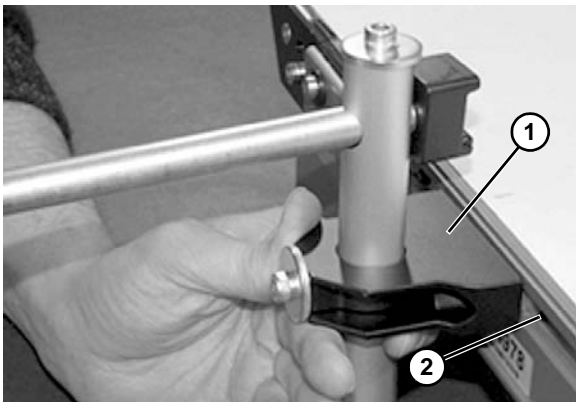

Figure 68
1. Install guide bracket assembly (**Figure 68, item 1**) into the conveyor T-slot (**Figure 68, item 2**).